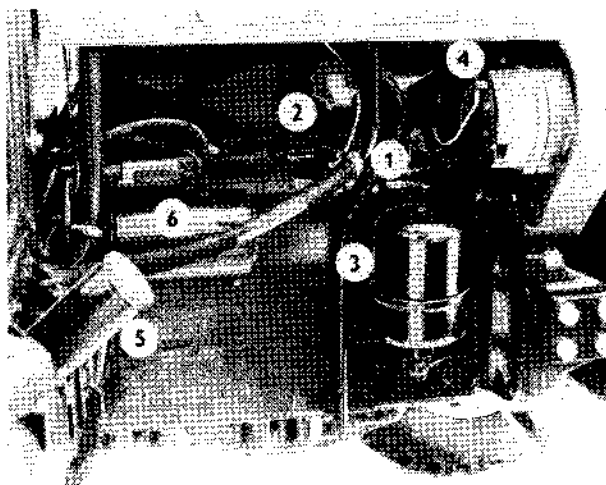

Fig. 5
1. Fuel filling hole (Fig. 5/5).
4. Cooling liquid drain cock from engine block (Fig. 5/1).
5. Engine oil filling hole (Fig. 5/2).